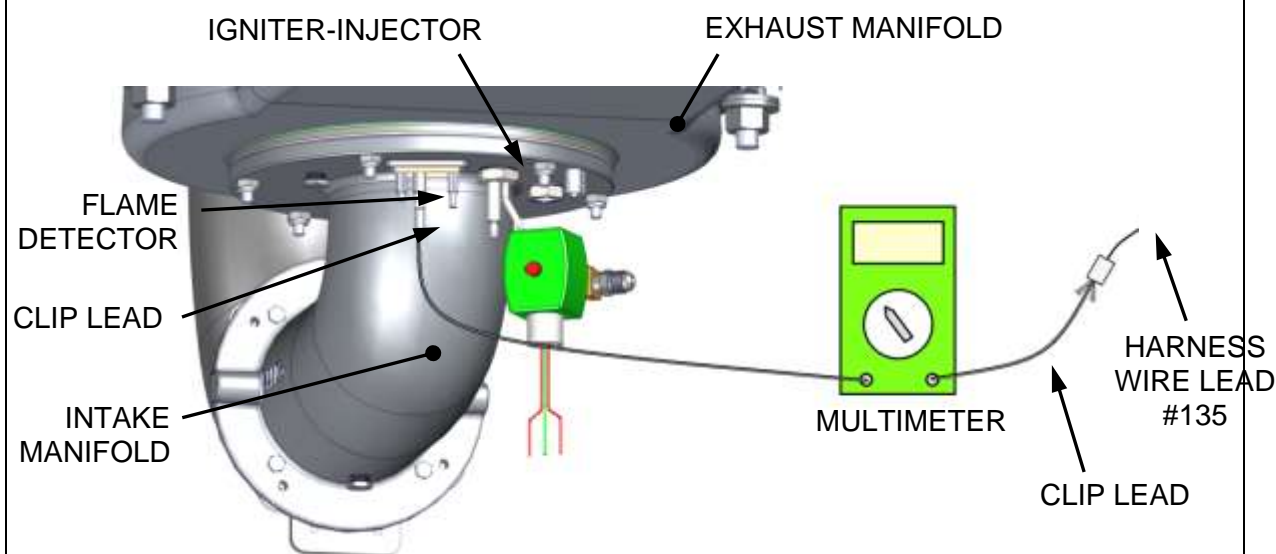

Figure 4.2.4: Flame Strength Set-Up Using Multimeter – Rear View
During Combustion Calibration, the flame strength generated by the flame detector is measured using a multimeter set to the μA scale. The flame detector is mounted on the intake manifold flange as shown in Figure 4.2.4.
1. Refer to Figure 4.2.4 and remove the right-side panel from the unit to access the flame detector.
2. Disconnect the flame detector wire lead #135 from the detector and connect the multimeter in series with the wire lead using alligator clips as shown in Figure 4.2.4.